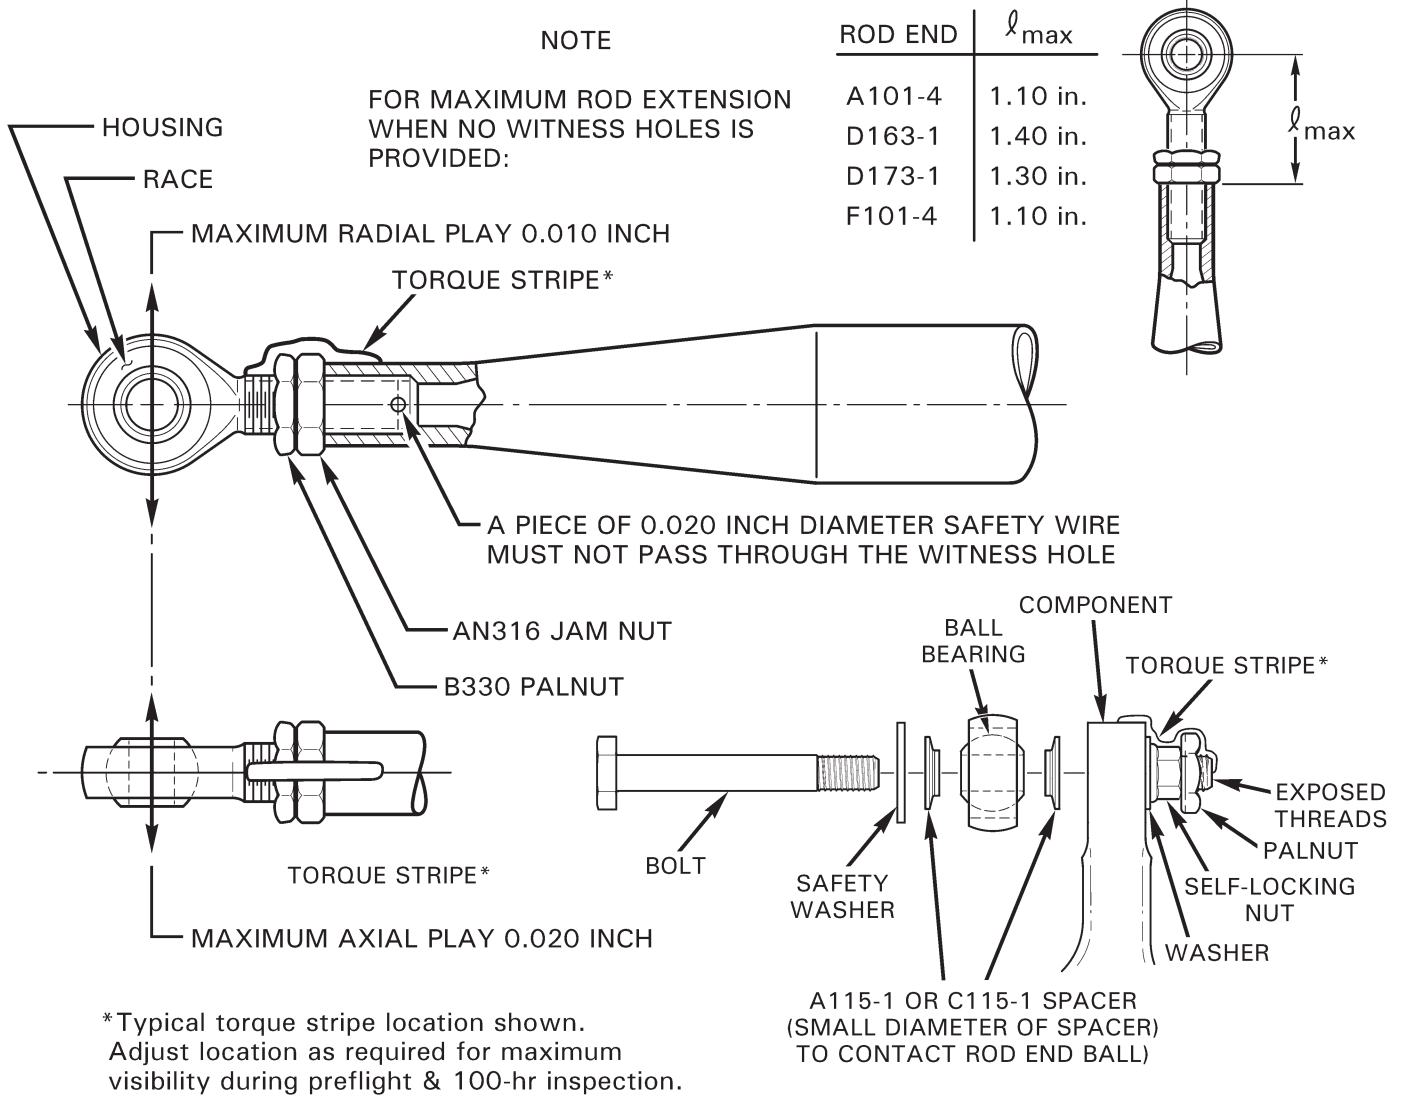

FIGURE 2-1 ROD END AND SPHERICAL BEARING PLAY LIMITS AND TORQUE STRIPE APPLICATION
3. Rod ends not riveted in place must block passage of 0.020-inch diameter wire through witness hole. Refer to Figure 2-1 for maximum rod end extension when no witness hole is provided.
4. Rod end jam nuts and stamped nuts must be torqued per § 23-32 and torque striped per Figure 2-1 at the most visible position for pre-flight inspection. Torque stripe must extend across nuts to both rod end shank and push-pull tube (or pitch link barrel, yoke, support, strut, etc.). Torque stripes are subject to deterioration and must be periodically renewed.
If, during inspection, the remaining torque stripe on a fastener is insufficient to determine joint integrity, then remove accompanying palnut as required and apply specified torque to fastener. If fastener moves, disassemble joint and inspect parts for damage such as fretting, thread deformation, hole elongation, etc.; replace damaged parts. If fastener does not move, install new palnut as required & standard torque per § 1.320. Torque stripe fastener per Figure 2-1.